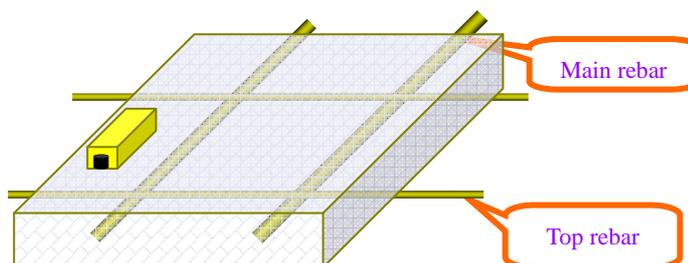

Fig. 1.4
► Put the rebars on a plane and keep them away from ferromagnetic materials. Put the plexiglass board over the rebars. (Fig. 1.4)